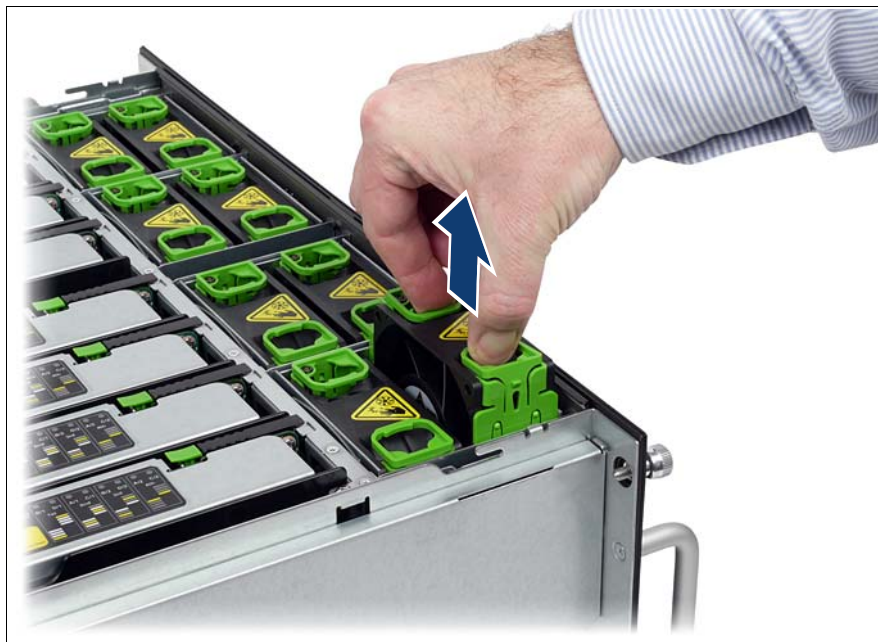

Figure 17: Unlocking a fan module and removing it
- ▶ Press the two green handles and lift the fan module out of the housing (see figure 17).